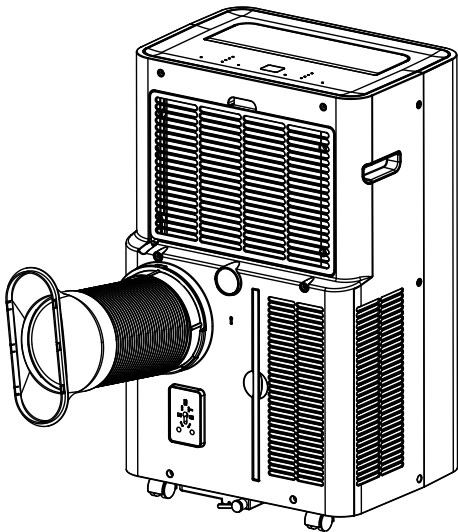

Fig. 1
1. Connect the flat fitting to the hose, extend the hose as maximum (1,5 mt) for reaching the outside and it connect to the back of the air conditioner. (Fig. 1)
- 1. To make the hole in the glass it is advisable to take the porthole kit accessory to the glazier (Fig. 1)
(Fig. 1)